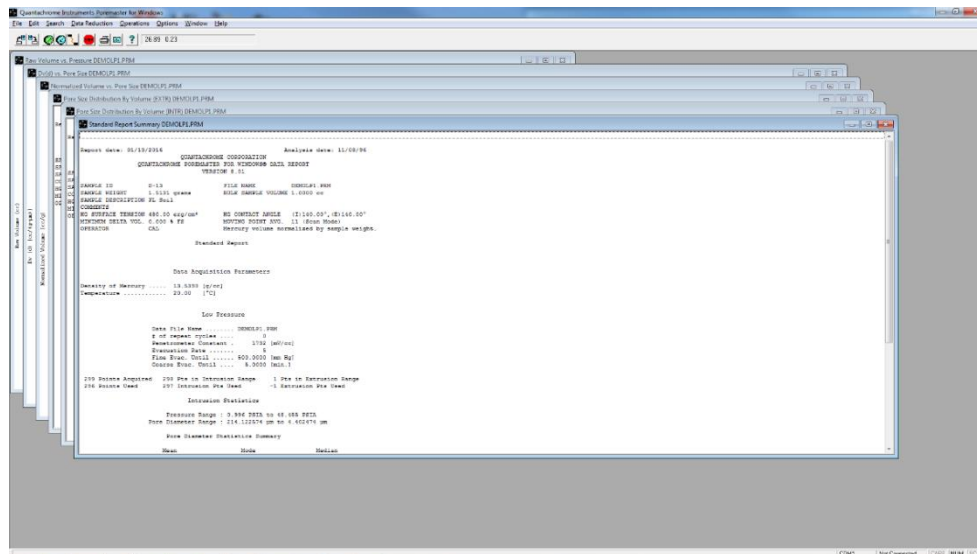

Figure 38. Selected tables/graphs opened from report setup
- The reports/graphs will appear in cascading windows on the screen such that the last on the list will be on the top of the stack as shown in Figure 38.
- Either **Delimited** or **Fixed Width** can be selected, but the import must be started at the appropriate row to get the data or the header plus data. For the example in Figure 38, the data begins on row 24.